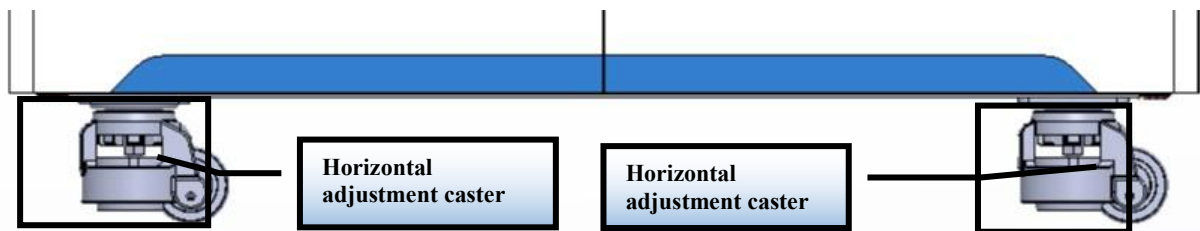

Figure 14: Horizontal adjustment casters at the bottom of the laser
- h) Customers can utilize the bottom rollers to transport or move the product. Before moving the laser, please ensure that the support blocks of the leveling casters are lifted off the ground. Once the laser is positioned, adjust the support blocks to make them contact the ground to prevent the laser from shifting. The horizontal adjustment rollers at the bottom of the laser are shown in Figure 14;